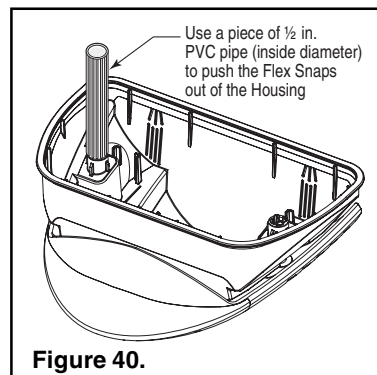

Figure 40.
8. If you need to replace the bumper, turn the housing/bumper assembly upside down and remove the two flex snaps holding the bumper to the housing, (see Figures 40 & 41). Use a piece of $\frac{1}{2}$ in. (inside diameter) PVC pipe to slide over the flex snap ends to squeeze the flex snaps together so they can be slid out of the housing. Use a pair of pliers to pop the flex snaps off of the bumper.